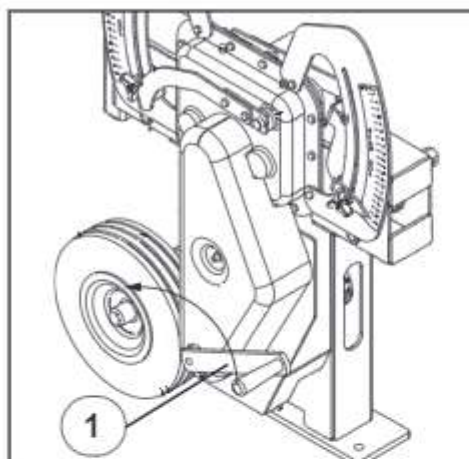

Fig 12
- 7 Place the crank handle (1) over the hexagonal drive dog on the transfer shaft and turn anti-clockwise until the seed flows consistently from the seeders (Fig 12). To ensure complete filling of the seed unit continue turning the crank until an even flow of seed is coming out of the seeder units, then empty into the seedbox. The drill is now ready for calibration.